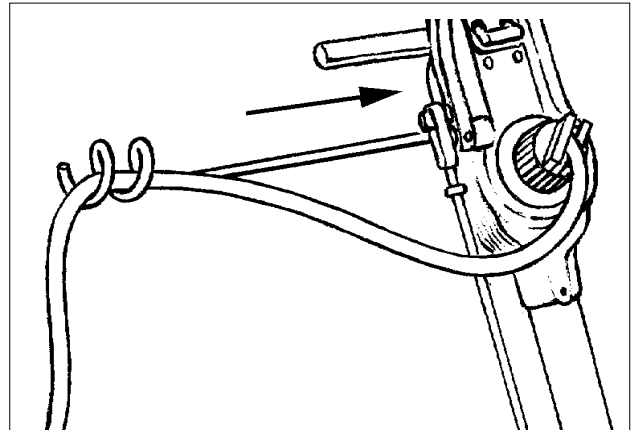

Figure 10
4. Wind the electrical cord through the cable arm. (See figure 10) Keep the power cord out of path of equipment. Do not connect the electrical cord at this time.